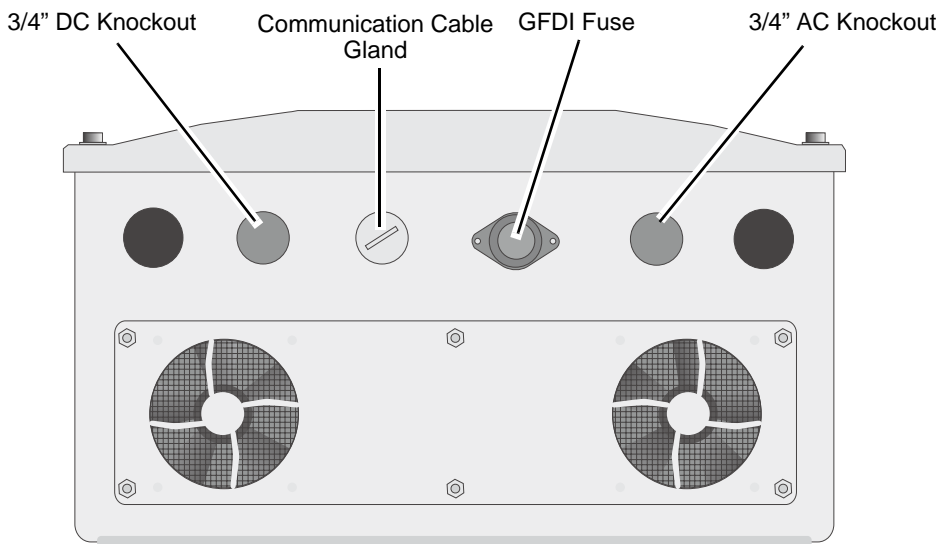
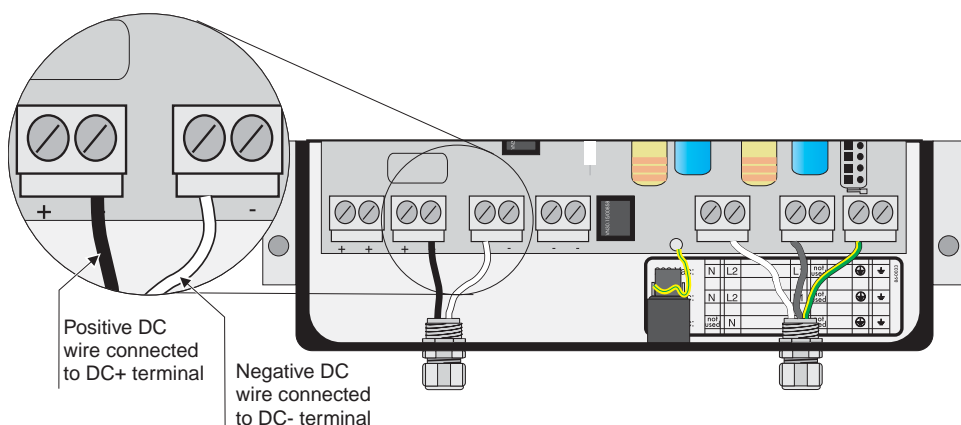

Figure 5-1 Bottom View of the Sunny Boy 6000U Showing 3/4" Wiring Knockouts
Figure 5-8 DC Connection Terminals
The DC input from the PV array (via the DC disconnect enclosure) and the output to the AC utility grid connect to the inverter inside the SB6000U's case. The internal AC and DC wiring terminals accept a maximum wire size of #6 AWG. Knockouts are provided on the bottom of the SB6000U near each of the terminals for the wires to enter the case, see Figure 5-1.
4. Install a 3/4-inch conduit fitting in the SB6000U's AC wiring knockout (the knockout on the right side of the SB6000U, as shown in Figure 5-1). Fasten the conduit fitting on the inside of the SB6000U with the appropriate locknut.
3. Install a 3/4-inch conduit fitting in the *SB6000U*'s DC wiring knockout. The DC knockout is the one farthest to the left on the bottom of the *SB6000U*, as shown in Figure 5-1 and Figure 5-8. Fasten the conduit fitting on the inside of the *SB6000U* with the appropriate locknut.
Note: Refer to Figure 5-8 for steps 5 through 7.